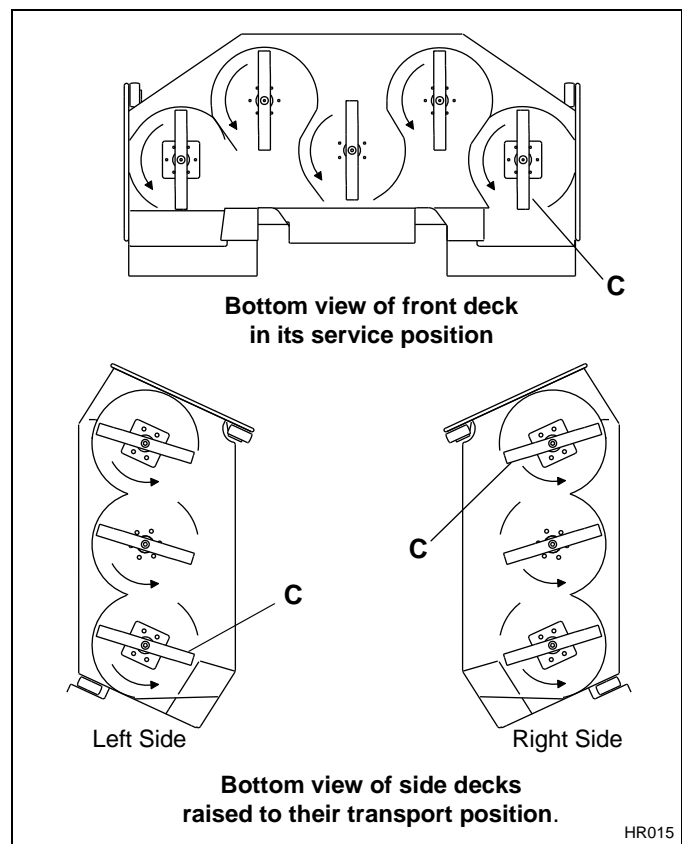

Figure 4C
5. Attach blade to mower. Install blades so cutting edges **(C)** face the direction of rotation as shown in **Figure 4C**. Beveled cutting edge of blade must face in toward deck housing.